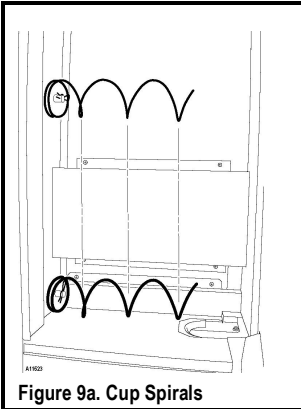

Figure 9a. Cup Spirals
1. Check that the top and bottom spirals are aligned the same and have room for three (3) stacks of cups. See **Figure 9a**.